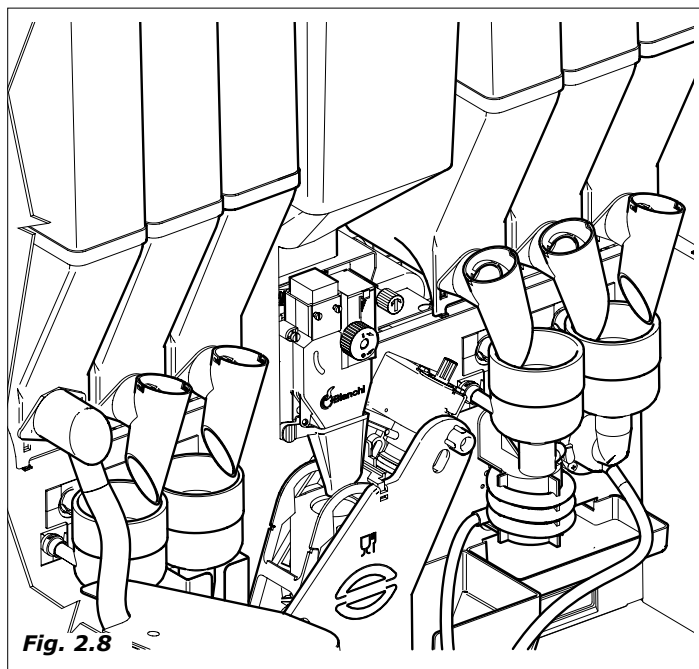

Fig. 2.8
- If present, the whipper motor is activated (Fig.2.8)